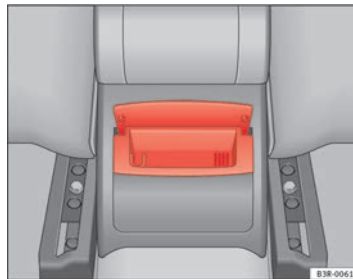

Fig. 134 Rear ashtray
- Take hold of the lid ⇒ fig. 134 and lift out the ashtray.